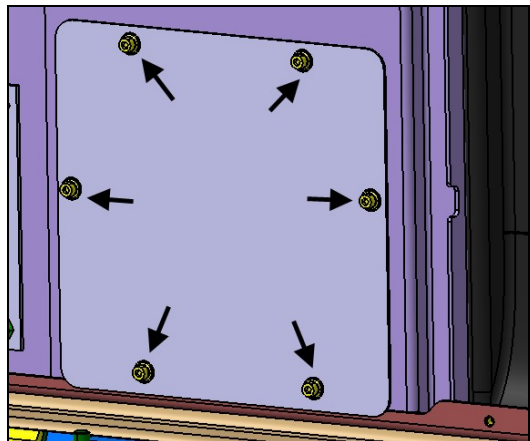

FIG.4: X3 SERIES – RADAR SENSOR ACCESS PANEL
2. Remove the radar sensor access panel (fig.4).